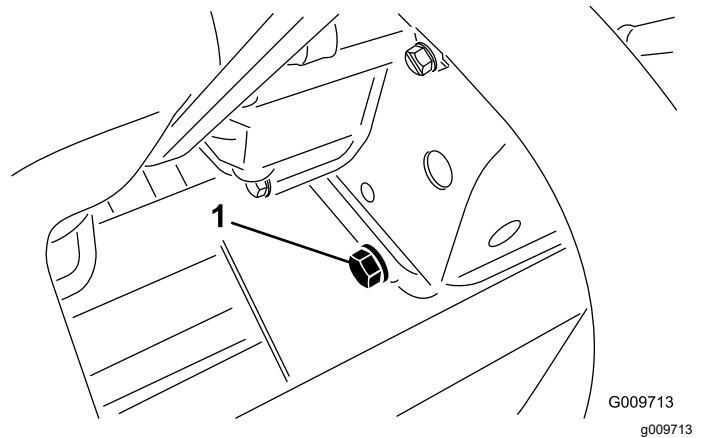

Figure 91
2. Remove the drain plug (Figure 91) and let the oil flow into a drain pan.